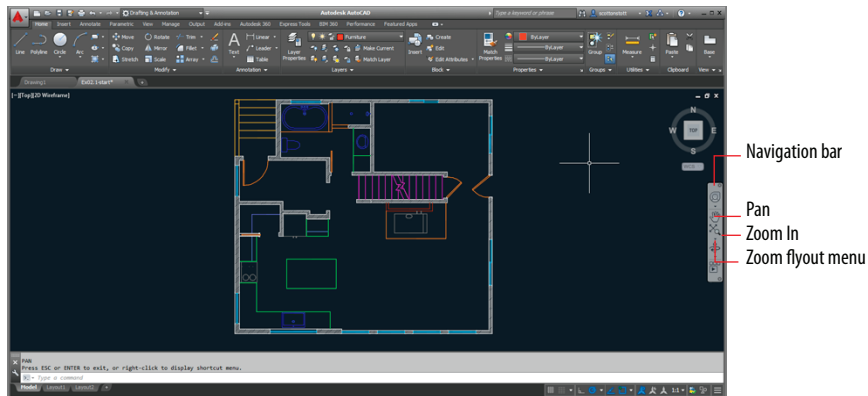

FIGURE 2.1 House sample file
Begin by opening the file the file `Ex02.1-start.dwg` (see Figure 2.1), which is available for download from the book's web page at www.sybex.com/go/autocad2015essentials.
1. Select the Drafting & Annotation workspace. Type `NAVBARDISPLAY` and press Enter. Type `1` and press Enter. The Navigation bar appears on the right side of the user interface (see Figure 2.1).